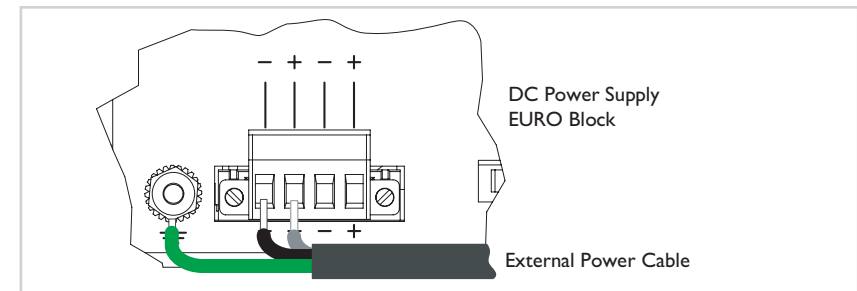

Figure 8: Power Supply Terminal Block and External Power Cable Connections
3. First, connect the power source ground lead to chassis ground. See Figure 8.